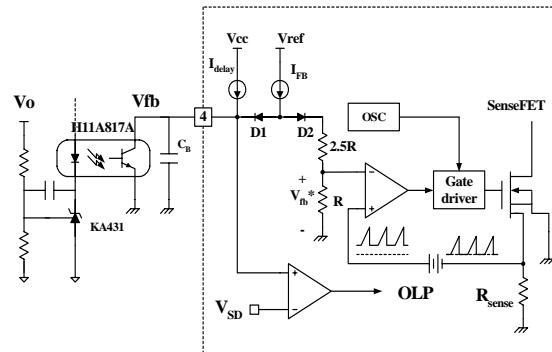

Figure 11. Pulse Width Modulation (PWM) Circuit
3. Feedback Control: The FSCQ-Series employs current mode control, as shown in Figure 11. An opto-coupler (such as Fairchild's H11A817A) and shunt regulator (such as Fairchild's KA431) are typically used to implement the feedback network. Comparing the feedback voltage with the voltage across the R_{sense} resistor plus an offset voltage makes it possible to control the switching duty cycle. When the reference pin voltage of the KA431 exceeds the internal reference voltage of 2.5V, the H11A817A LED current increases, pulling down the feedback voltage and reducing the duty cycle. This event typically happens when the input voltage is increased or the output load is decreased.
3.1 Pulse-by-Pulse Current Limit: Because current mode control is employed, the peak current through the SenseFET is limited by the inverting input of the PWM comparator (V_{fb}^*) as shown in Figure 11. The feedback current (I_{FB}) and internal resistors are designed so that the maximum cathode voltage of diode D2 is about 2.8V, which occurs when all I_{FB} flows through the internal resistors. Since D1 is blocked when the feedback voltage (V_{fb}) exceeds 2.8V, the maximum voltage of the cathode of D2 is clamped at this voltage, thus clamping V_{fb}^* . Therefore, the peak value of the current through the SenseFET is limited.